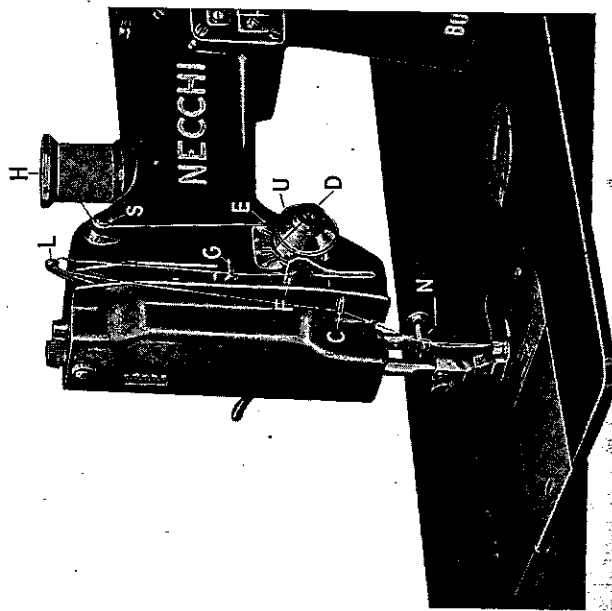

Fig. 7
- b. Place spool of thread on spool pin "H" and run thread over upper arm thread guide "S". (Fig. 7)